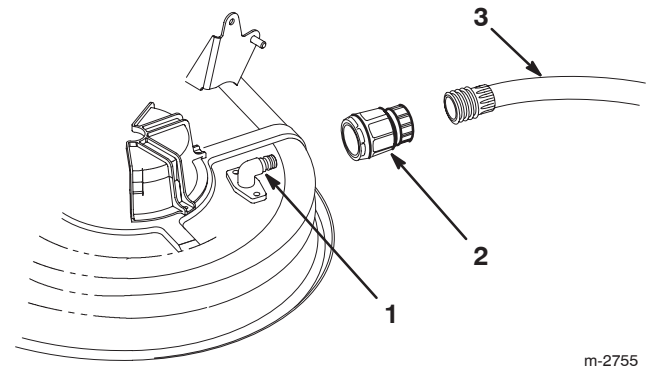

Figure 51
4. Screw the coupling to the end of a garden hose, attach the coupling to the mower washout fitting, and turn the water on high (Fig. 51).